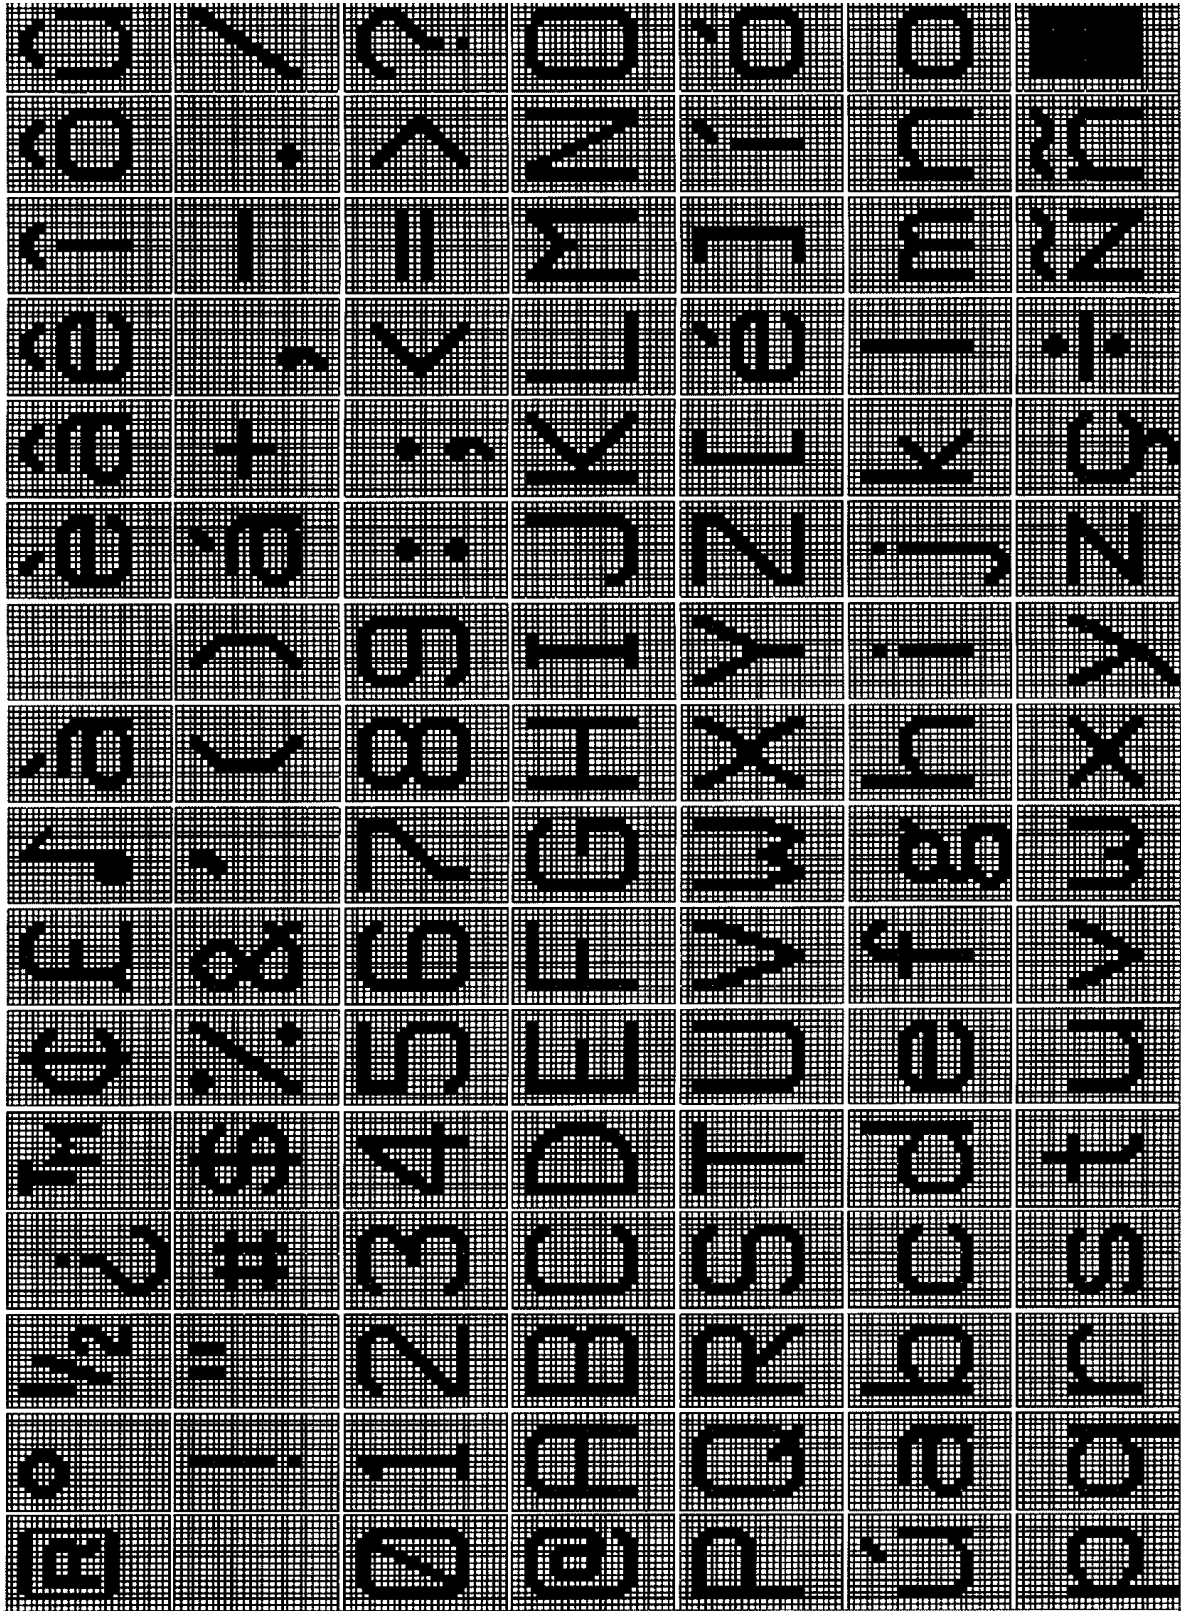

Figure 4. Z86229 Standard Character Map and Font
**Normal Mode.** Characters are displayed as white or colored dot matrix characters on an opaque background. The Box is normally black, but the Z86229 can be set to a blue background Box with a serial command. The characters are described by a 12 by 18 dot pattern within a character cell which is 16 dots wide by 26 dots high per frame. The location of the character luminance within the character cell varies from character to character to allow for the display of lower case letters with descenders. All characters have at least a 1-dot border of black around each character. Underline is also provided. Figure 4 illustrates the Z86229 standard character map and font.